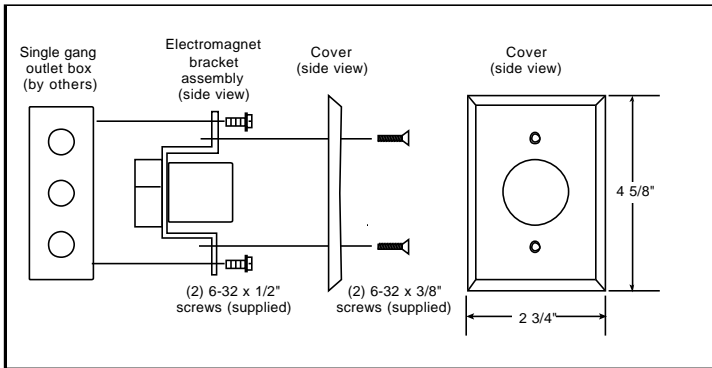

Figure 2. Mounting
- Refer to Figure 2. Pull field wiring through conduit into the single gang outlet box.
- Secure the electromagnet bracket assembly to the outlet box using two #6-32 x 1/2" screws provided (Figure 2).
- Mount the cover to the electromagnetic bracket assembly and secure with two #6-32 x 3/8" screws provided (Figure 2).